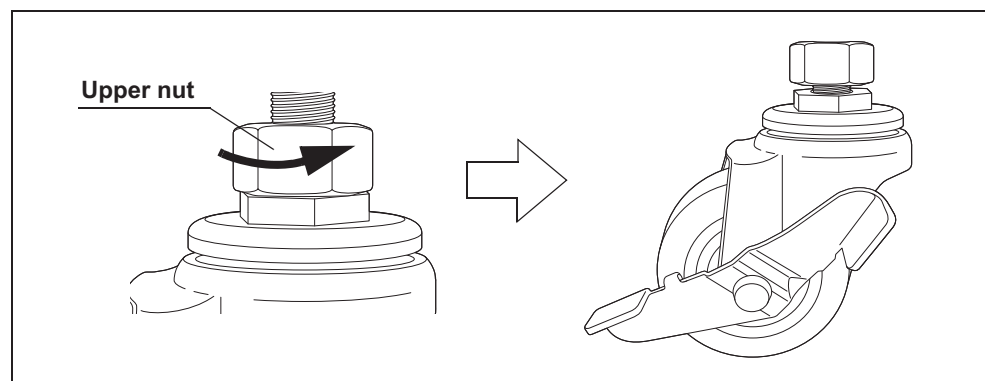

Figure 4.113
- 3 Turn the upper nut on each caster in the direction shown Figure 4.113 to tighten.